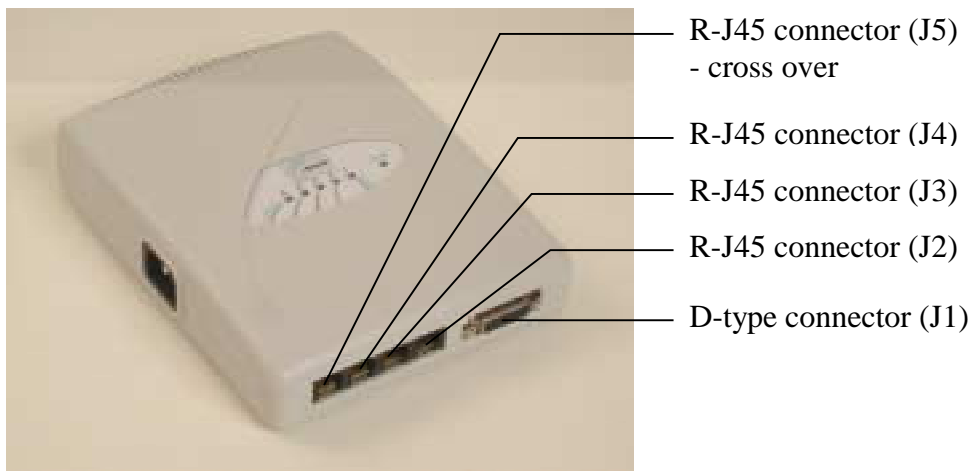

Figure 9-7: SDA-4H with four Ethernet ports
- **SDA-4H:** four RJ-45 ports (see Figure 9-7).
The SDA-4S models and SDA-4H can be connected to another hub (for example, for daisy chaining). The ports of the SDA-4S models support MDI/MDI-X automatic crossover, allowing connection of straight-through or crossover cables. However, for the SDA-4H model, only the left-most RJ-45 port (J5) is a crossover port (see Figure 9-7).